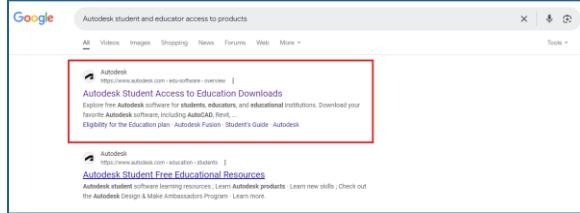

Figure 1: Education access page
- 2- Click the first link as shown in Fig. 1.